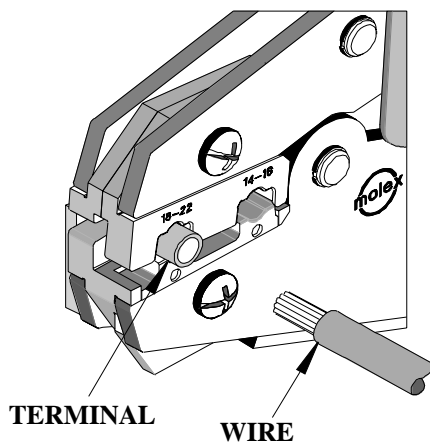

Figure 2
2. Partially close the tool to hold the terminal in place, (See Figure 2).
3. Insert the properly stripped wire into the terminal barrel, (See Figure 2 and 3). Cycle the tool.